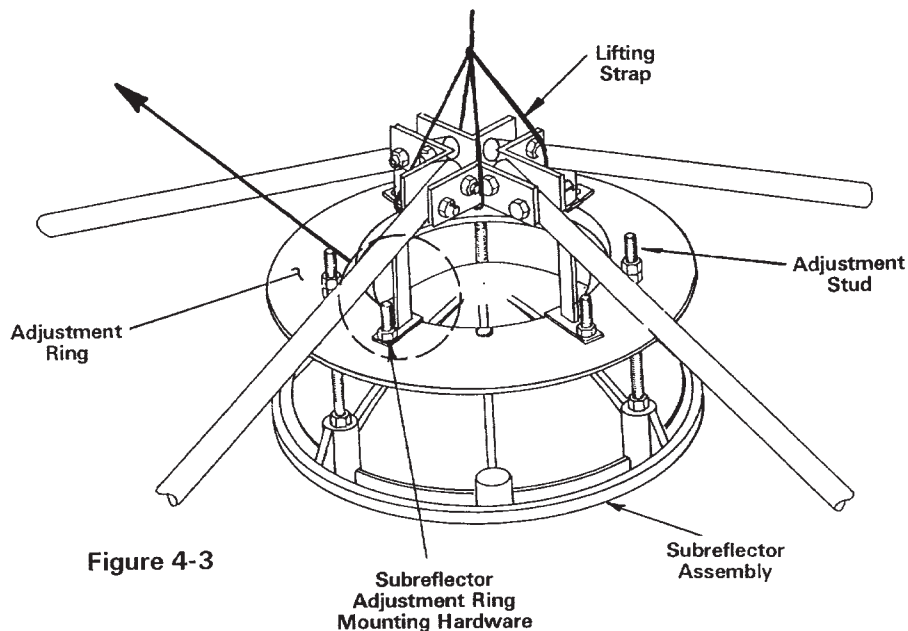
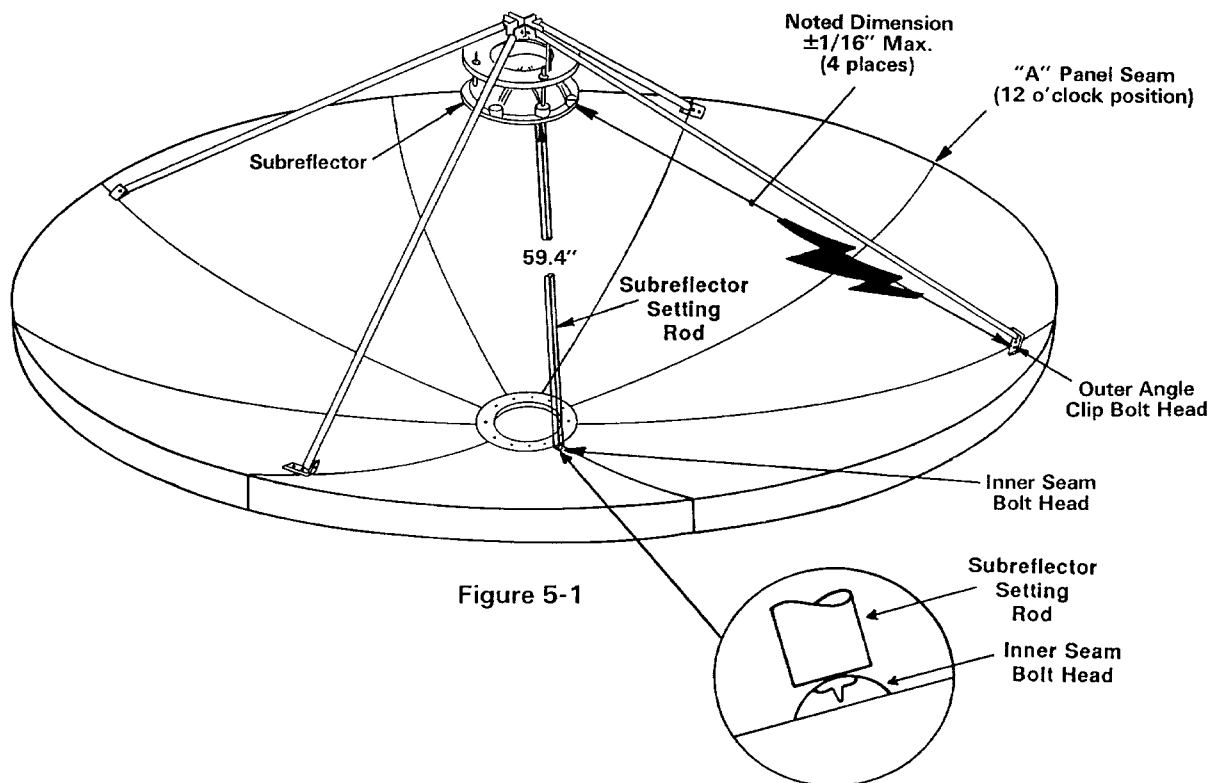

Figure 4-3
Figure 5-1
4.3 Refer to Figure 4-3. Carefully raise main reflector assembly to zenith (EL = 90°) position. Position and loosely attach preassembled subreflector/adjustment ring assembly to corresponding mounting holes in strut support plates (part of strut weldment) using supplied bolts, oversized flat washers, flat washers, lock washers and nuts. Attach temporary lifting strap as shown, being careful not to damage subreflector assembly. **Note:** Position subreflector assembly to ensure one subreflector adjustment stud will be located at 12 o'clock position when finally installed on main reflector assembly. Refer to Figure 5-1.
5.1 Refer to Figure 5-1. Use subreflector setting rod to set distance between inner reflector panel seam hardware and subreflector aperture at three subreflector adjustment stud positions. Use subreflector adjustment hardware (refer to Figure 4-3) to achieve equal axial dimensioning at all three locations. Securely tighten adjustment hardware.
5.2 Measure and note the distance between outermost angle clip bolt head and the subreflector rim as shown. Obtain corresponding measurements from remaining subreflector struts and adjust subreflector adjustment ring mounting hardware (refer to Figure 4-3) at all four locations to achieve a maximum differential of 1/16 in. Securely tighten adjustment hardware.